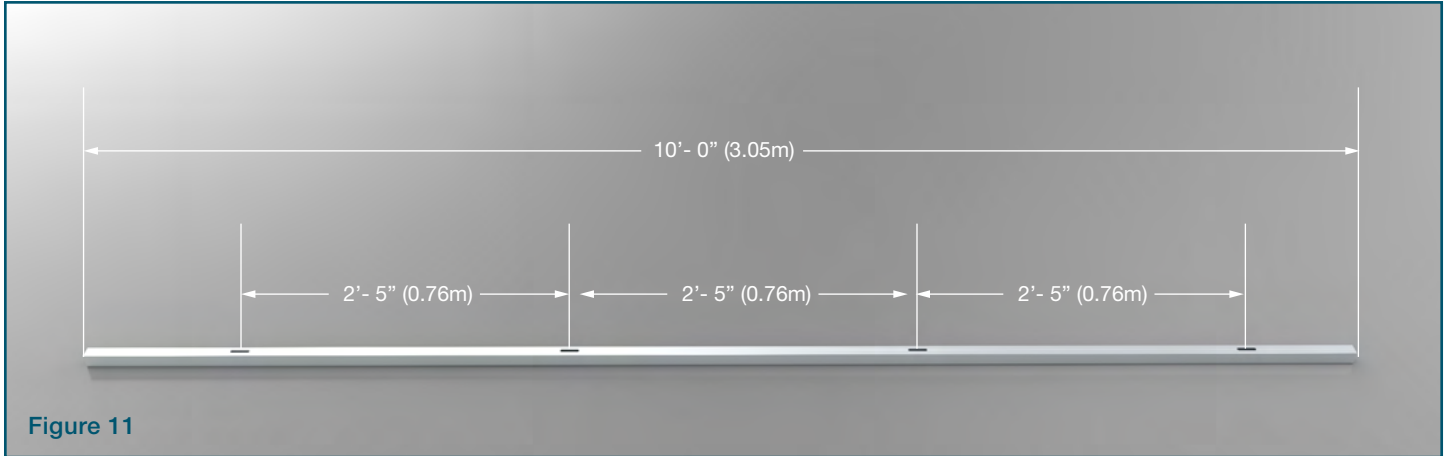

Figure 11
**01** Ceiling track is shipped in 10'-0" (3.05m) lengths and has punched-out areas every 2'-5" (0.76m) (see Figure 11).